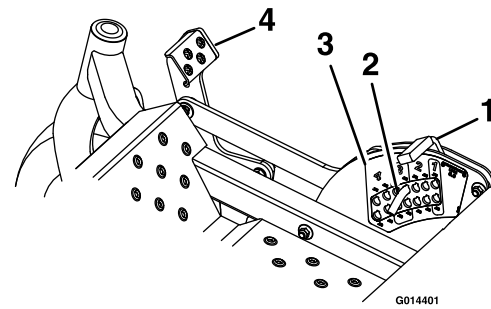

Figure 15
3. Raise and lock the deck to the 5 inch (12.7 cm) transport position (Figure 15).